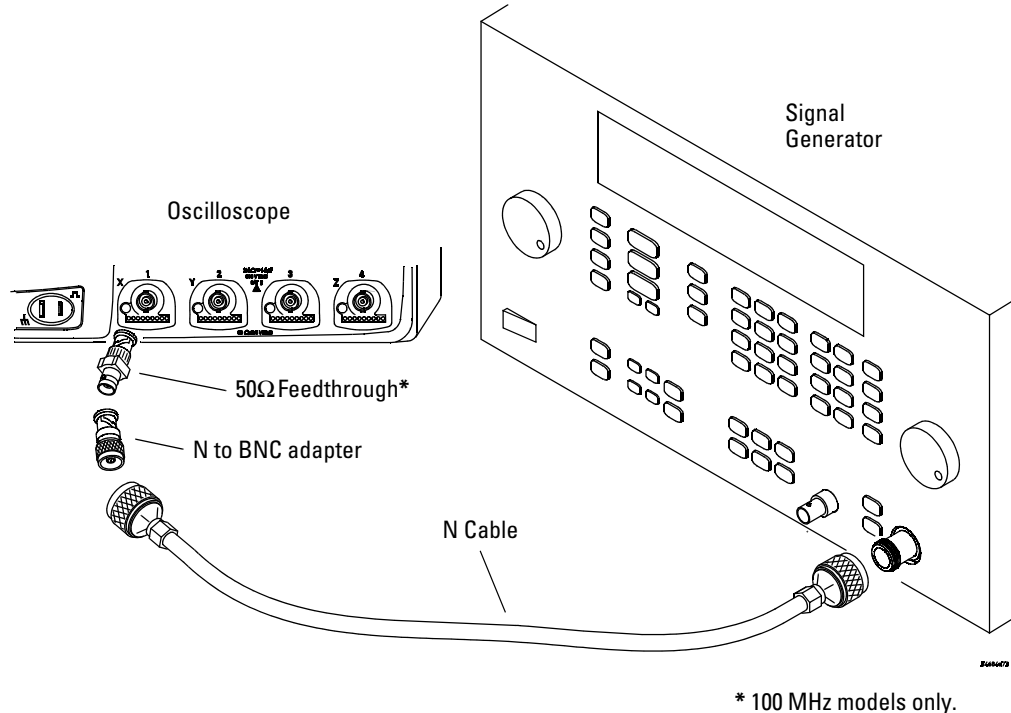

Figure 6 Connect equipment
- 1 Connect the equipment (see Figure 6).